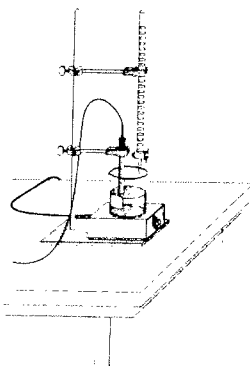

Figure 1
8. Set up a ring stand, buret clamp, and buret to conduct a titration (see Figure 1). Rinse and fill the buret with the NaOH solution.
9. Use a utility clamp to suspend the pH Sensor on a ring stand as shown in Figure 1. Position the pH Sensor in the KHP solution and adjust its position so that it is not struck by the stirring bar. Gently stir the beaker of solution.